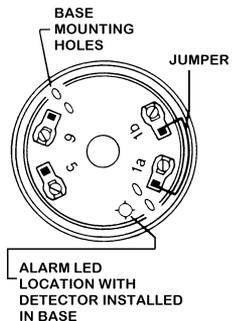

Figure 2
- When the alarm LED viewing is critical, position the LED mark in the base in the intended direction. (See Figure 2.)
- After all bases are installed, including the end-of-line device, check loop continuity. (Refer to system operation manual for procedure.) To make the continuity check, a jumper is furnished in every base (between terminals 1a and 1b) to complete the loop (See Figure 2). An open circuit condition exists until the jumper or detector is installed in the base.